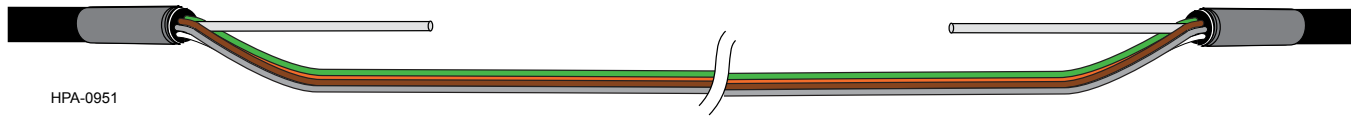

Figure 19
Step 11: Separate the buffer tubes from the central member. Cut the central member at each end of the mid-span (near the tape marks) to the appropriate length for strain-relief. If you will be installing cable strain-relief hardware that clamps into the jacket, place three layers of vinyl tape over the area where the clamps will make contact with the jacket. (Figure 19).